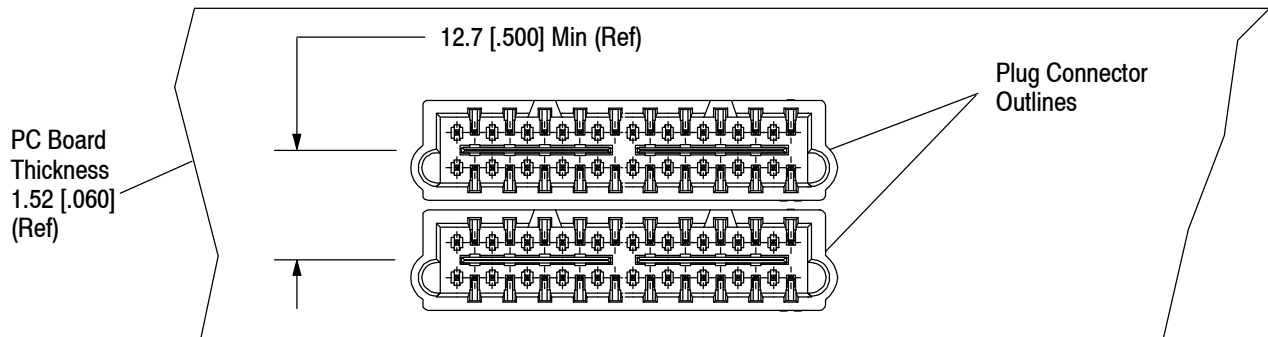

Figure 6
*There is a minimum dimension of 12.7mm [.500 in.] required between all plug connectors when they are to be mated with right-angle receptacle connectors that are mounted to a 1.52 mm [.060 in.] thick pc board. This dimension is increased 0.76 mm [.030 in.] for each 0.76 mm [.030 in.] increase in pc board thickness. See Figure 6.*